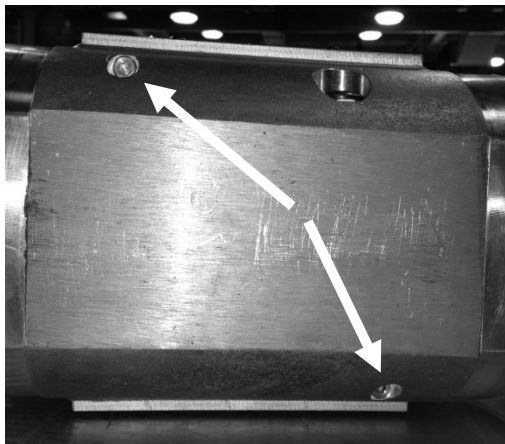

Figure 53 Drainage Plugs
2. Locate the belt tensioner lead screw on the front of the saw frame. (Figure 53)